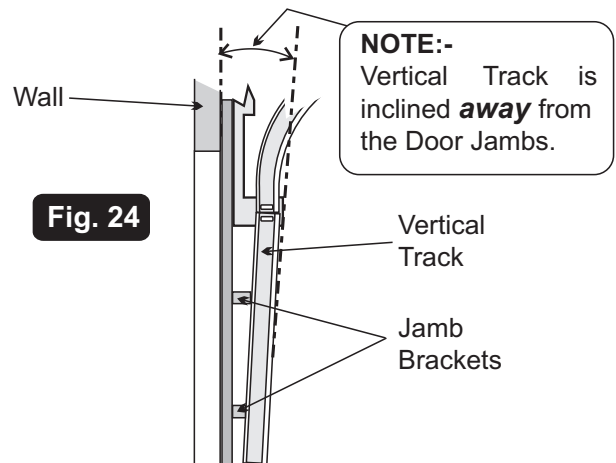

Fig. 24
c) The Vertical Tracks, when viewed from the side, are not **"exactly vertical"**, i.e. they are not parallel to the wall. The tracks must be inclined at a slight angle to the wall as shown in **Fig. 24**